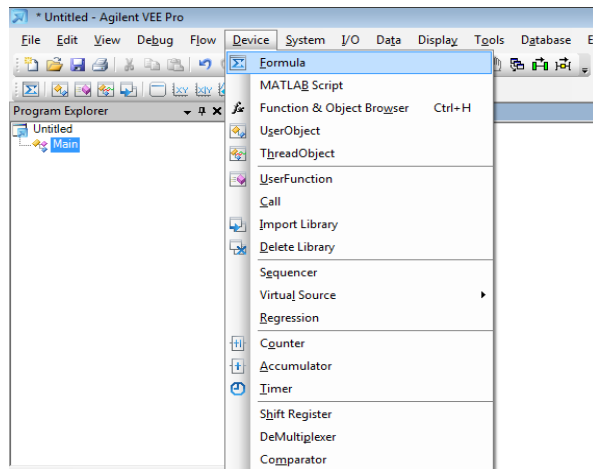

Fig. 19. Adding a Formula Object
- Our aim is to plot absolute value of the sine wave with a 0.5 DC offset. For this purpose, we will use **Formula** object. Select **Menu Bar** → **Device** → **Formula** as shown in Fig. 19.